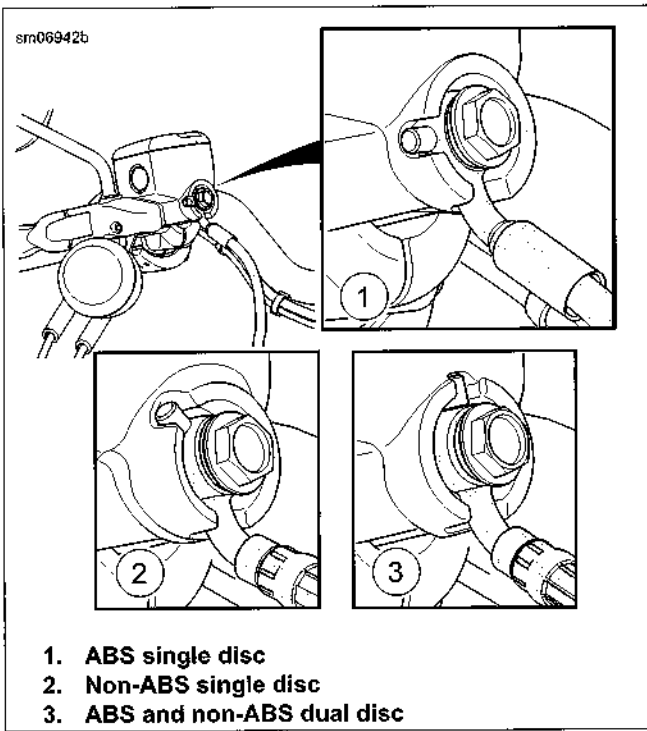

Figure 2-55. Banjo Fitting Pegs
6. See Figure 2-55. Install brake line banjo fitting.